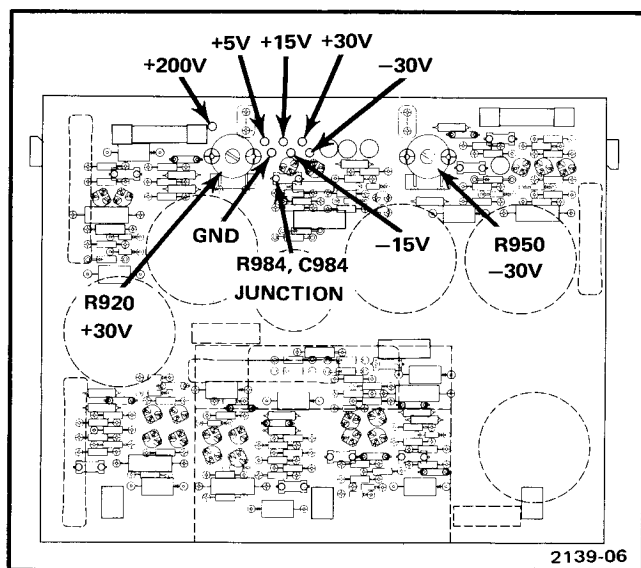

Fig. 5-1. Location of power supply test points and -30, +30-volt adjustments.
- Connect the digital voltmeter between -30 V test point on the LV power supply circuit board and chassis ground. See Fig. 5-1 for voltage test point location.
- ADJUST—-30 Adj R950 for a meter reading of -30 volts. See Fig. 5-1 for adjustment location.
- Connect the digital voltmeter between +30 V test point on the LV power supply circuit board, and chassis ground. See Fig. 5-1 for voltage test point location.
- ADJUST—+30 Adj R920 for a meter reading of exactly +30 volts. See Fig. 5-1 for adjustment location.
- CHECK—Each supply with the digital voltmeter to ensure that all output voltages are within the limits given in Table 5-1. See Fig. 5-1 for voltage test point locations.
- Connect the digital voltmeter between the CALIBRATOR current loop and a ground test point. See Fig. 5-1 for ground test point location.
- Apply a ground connection (short circuit) between the junction of R984 and C984 and a ground test point on the low-voltage and calibrator board. See Fig. 5-1 for the junction and ground test point location.